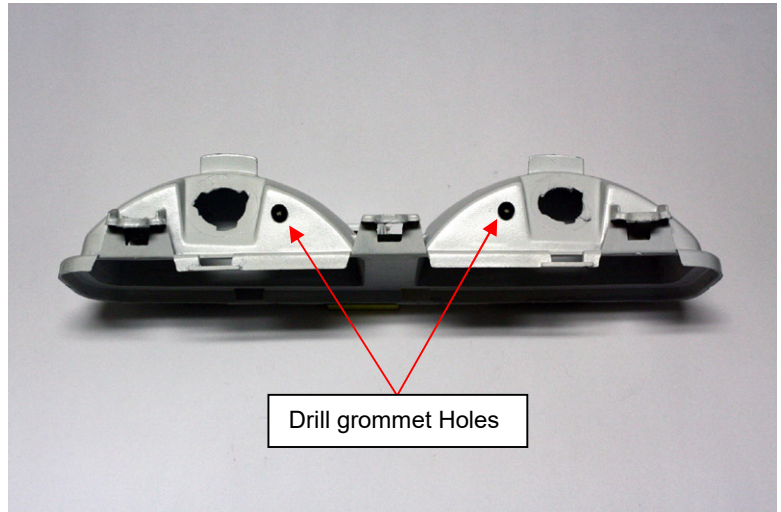

Figure 1
2. Drill 2 – 5/16" holes on the inner surface of the flat section of the bulb socket holes. (See Figure 1) The exact location of each hole is not critical. Then install provided rubber grommet into the drilled hole. One method to simplify installation is to pinch grommet, insert protruding edge into the hole, then use a small flat blade screwdriver to push/work the remaining edge through the hole.